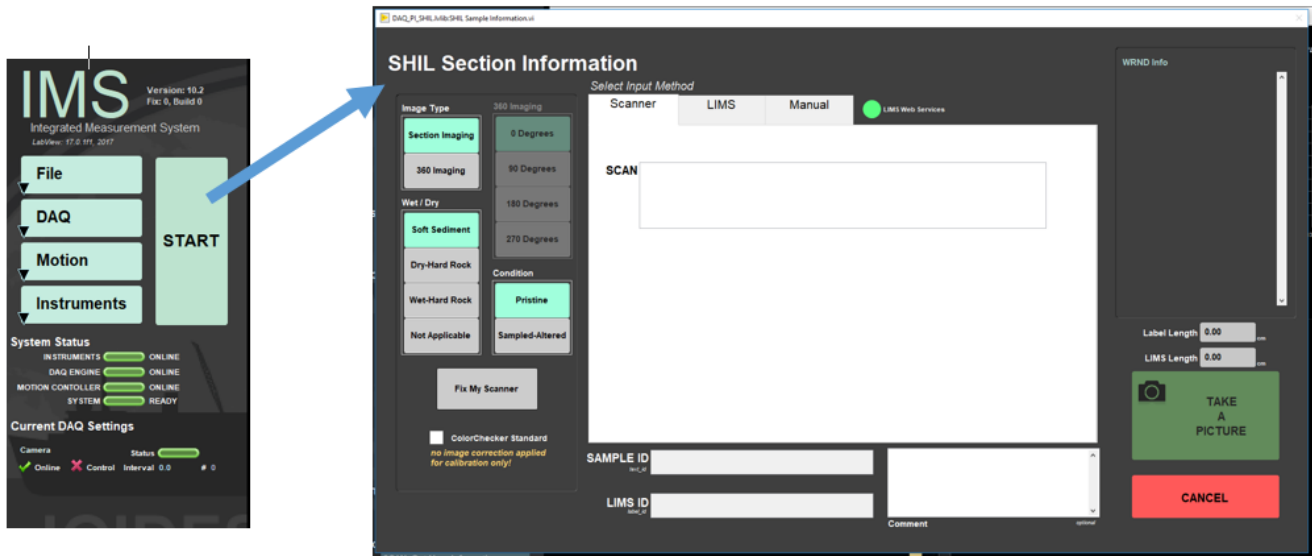

Figure 39. Sample Information Window
2. Click **Start** in IMS (Figure 39).